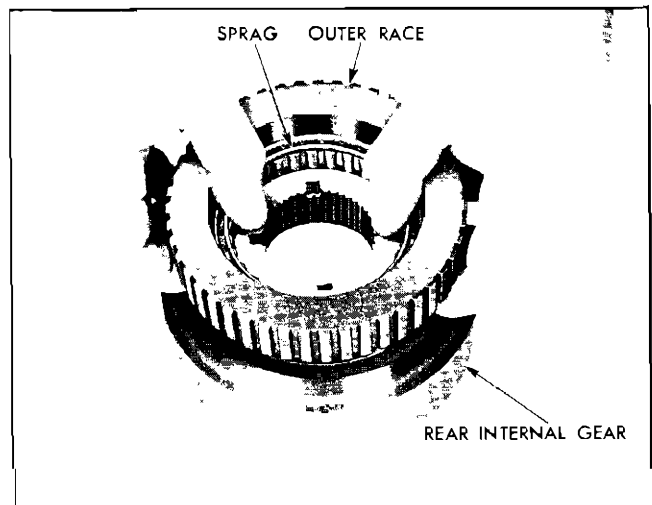

Fig. 90 Installing Sprag Outer Race
3. With shoulder side of sprag up, start sprag and outer race over internal gear (Fig. 90).